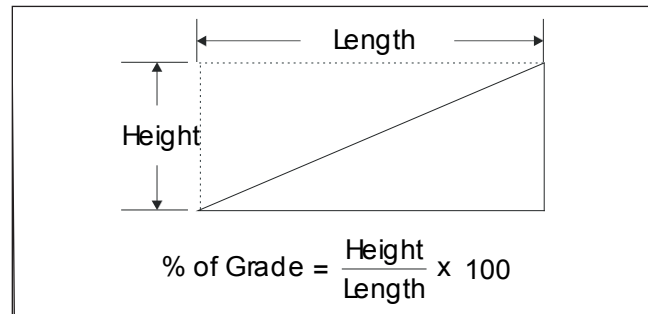

Figure 8.6 – Percent Grade Formula
The percent grade equals the height (rise) of the slope divided by the length (run) times 100. Refer to Figure 8.6.
5. Use the formula in Figure 8.6 to calculate the percent of the grade.